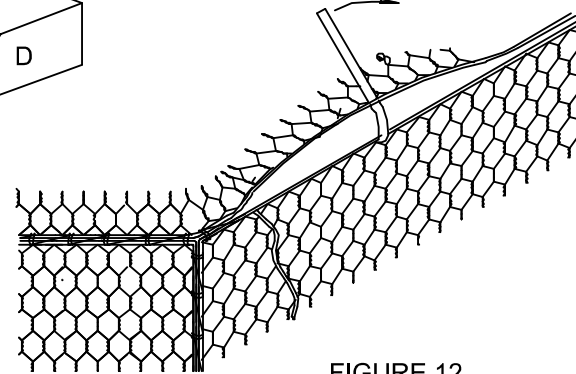

FIGURE 12
6. STRETCH THE LIDS TIGHTLY OVER THE FILLING USING A CROWBAR. SECURE THE CORNERS FIRST, BY MEANS OF THE THICK SELVEDGE WIRE PROTRUDING FROM THE LID CORNERS. TO ENSURE THAT THERE IS ENOUGH MESH TO COVER THE WHOLE AREA. SOME FILLING MAY HAVE TO BE REMOVED FROM THE TOP OF THE GABION BOX TO PREVENT THE LID FROM OVERSTRAINING, THEN SECURELY WIRE IT TO THE TOPS OF THE SIDES, ENDS AND DIAPHRAGMS, USING THE ALTERNATE SINGLE AND DOUBLE LOOPS (FIGURE 12).